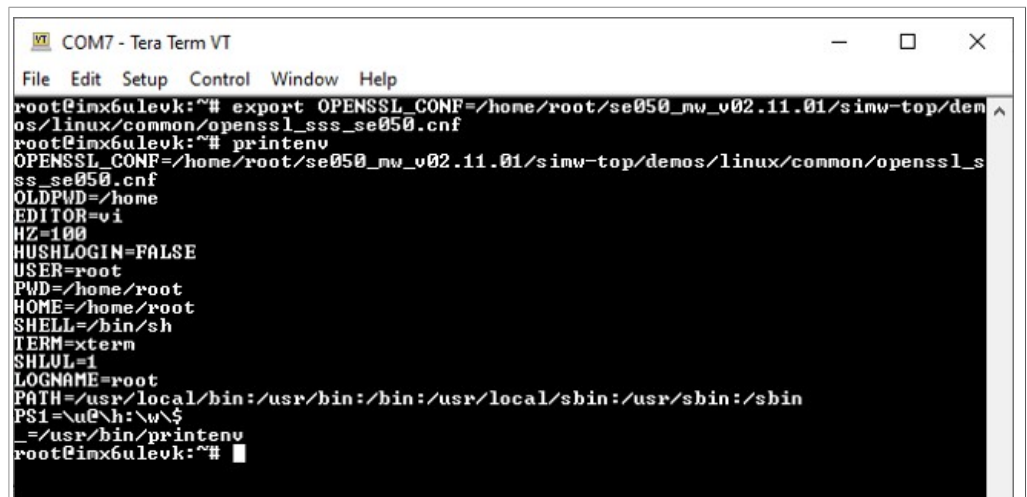

Figure 26. Export the OPENSSL\_CONF variable.
2. Export the **OPENSSL\_CONF** environment variable as shown in Figure 26: